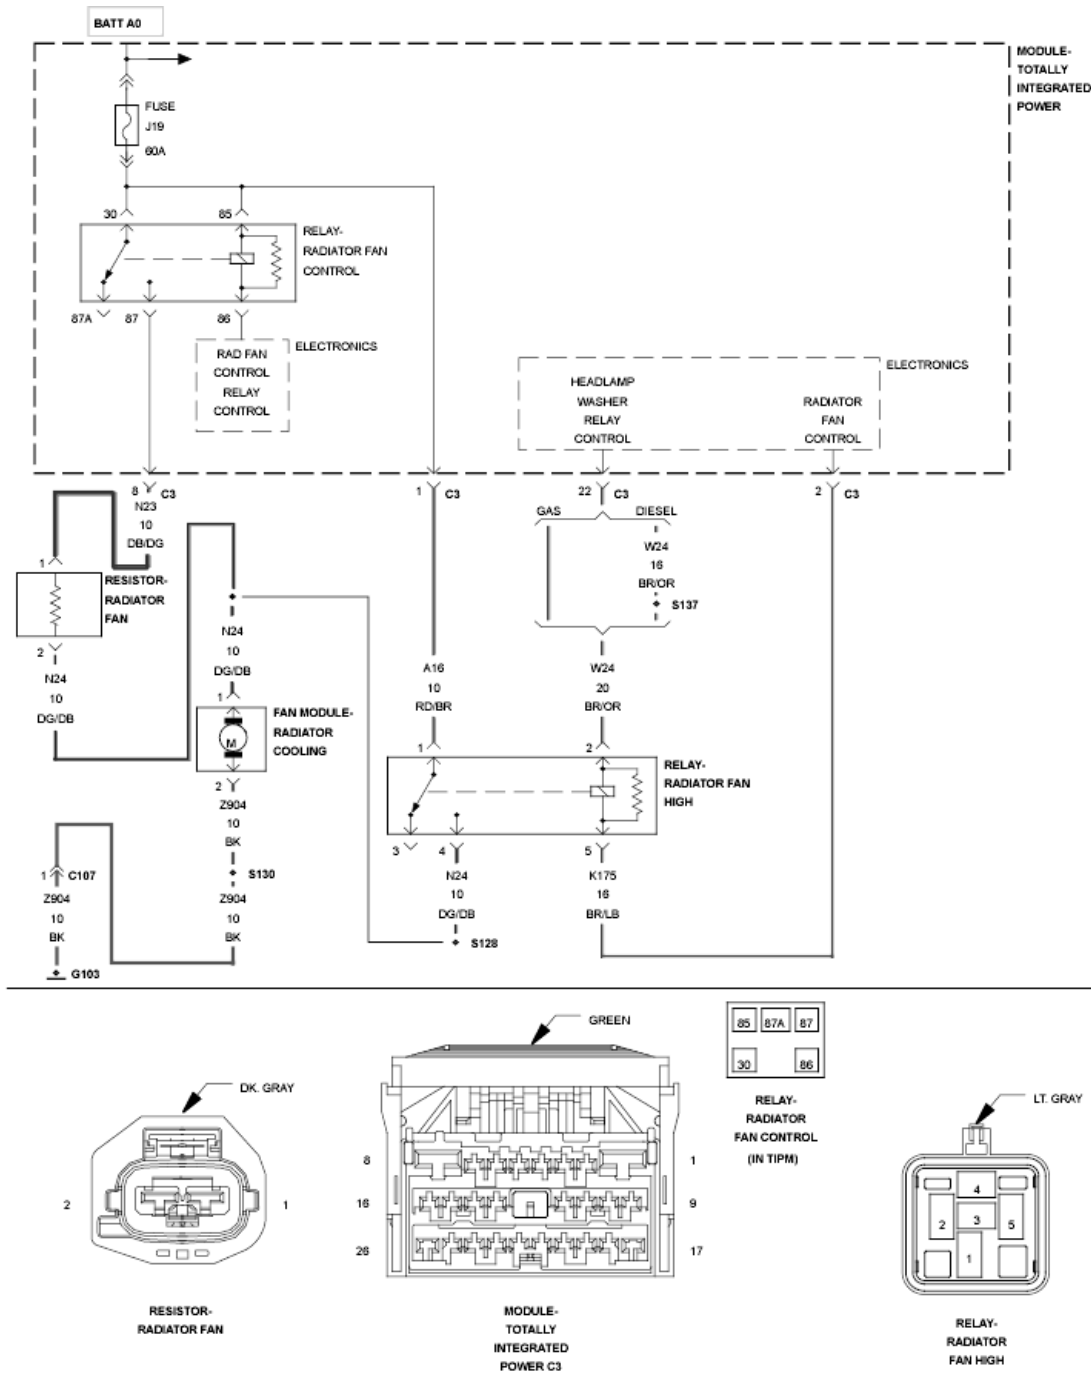

Fig. 21: Cooling Fan Operation Circuit Schematic
1. Using **Fig. 21** as a guide, inspect the wiring and connectors between the Cooling Fan Module, TIPM, and the Powertrain Control Module (PCM).